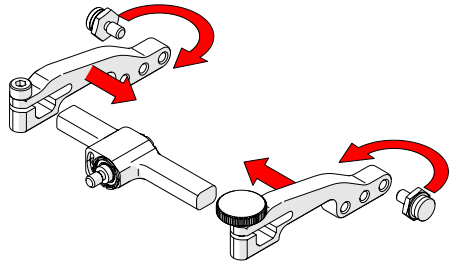

Fig. 62 - Attach arms and move buttons
4. Place the pivot buttons on the inside of the probe holder arms (Fig. 62) using a 3/8 in wrench (Fig. 20). Slide the arms onto the yoke and tighten the probe holder arm adjustment knob and the arm clamp screw.